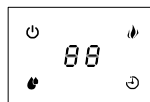
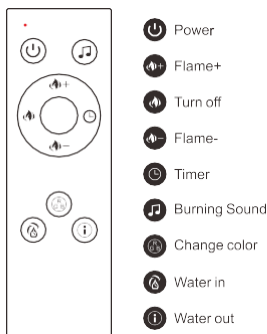

Fig.3
Fig.4
2. Using the remote control (Fig.4), functions same as control panel (Fig.3).